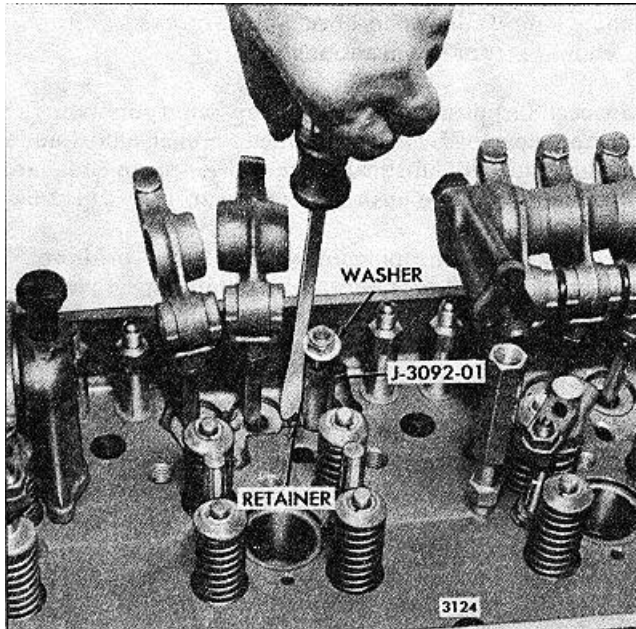

FIG. 3 - Removing Push Rod from Upper Side of Cylinder Head
5. Remove the spring seat retainer from the groove in the cylinder head (Fig. 3).